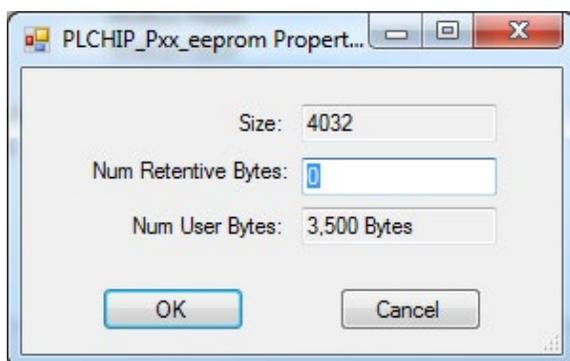

Figure 2-38 - PLCHIP Pxx_eeeprom Properties
5. Click **OK**. The **PLCHIP_Pxx_eeeprom Properties** dialog will open. Leave the default settings (Num Retentive Bytes set to 0). See Figure 2-38. Click **OK**.